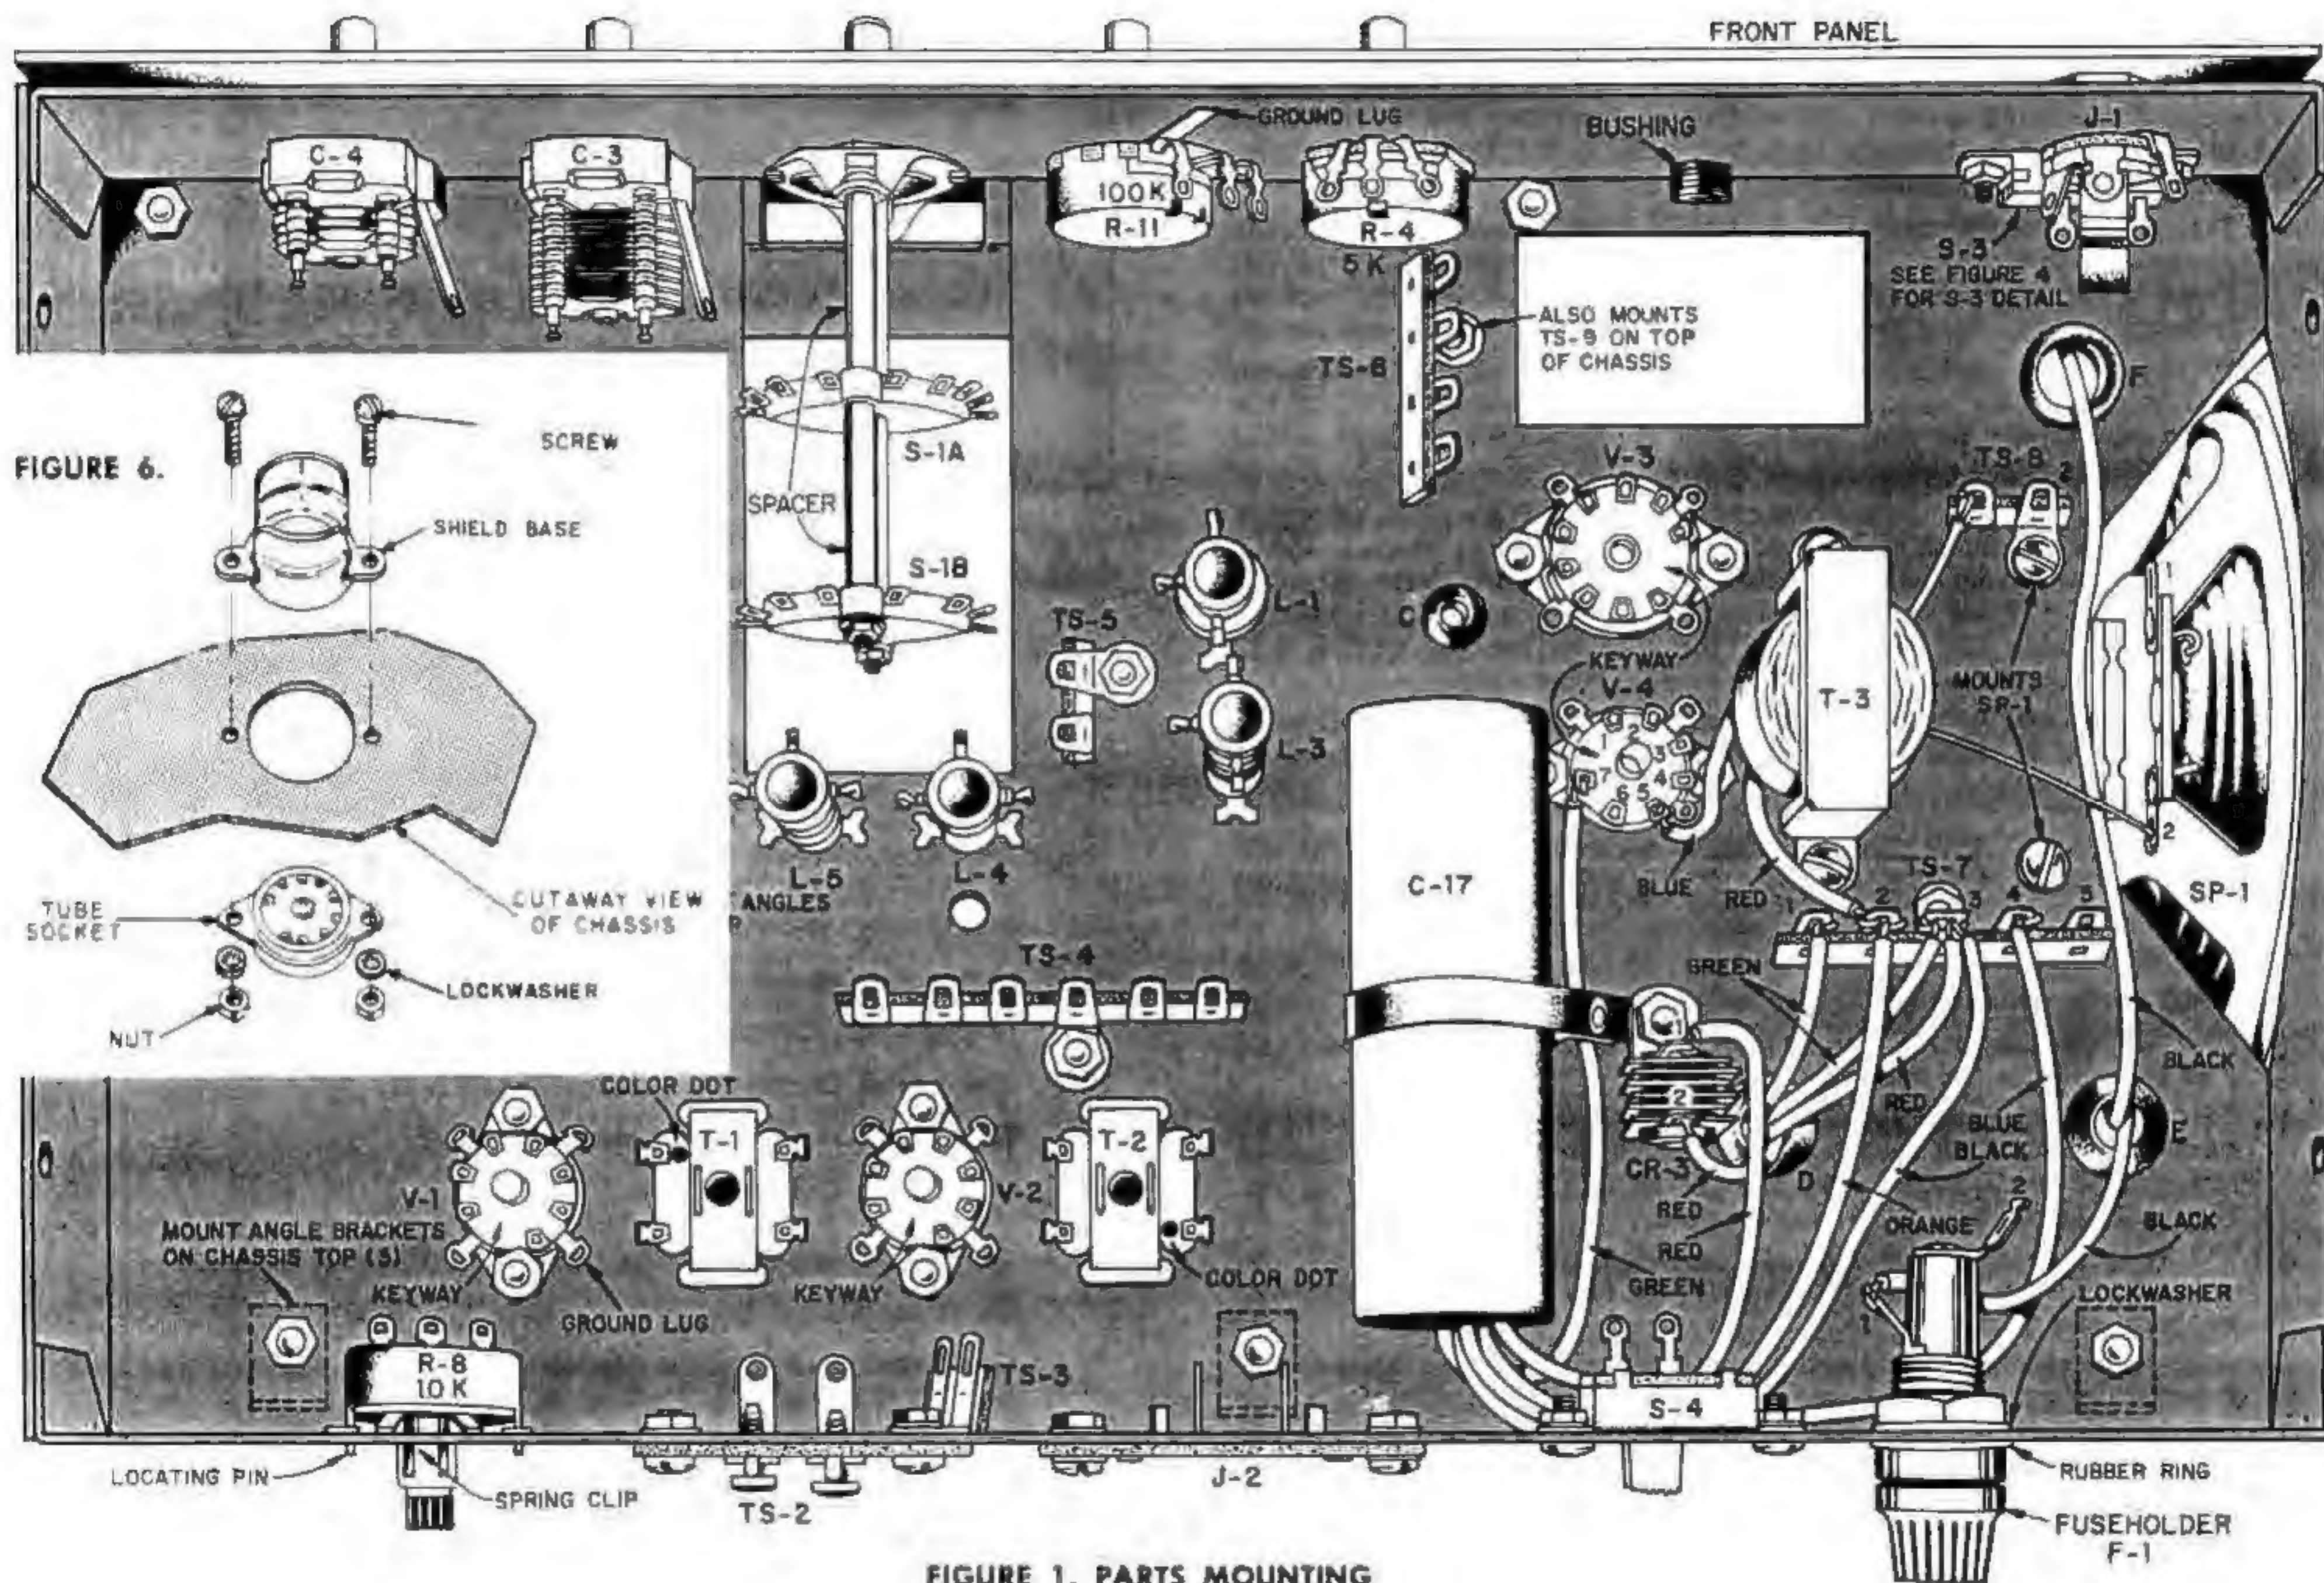

FIGURE 1. PARTS MOUNTING
- ☐ C-2 tuning capacitor with large drive pulley attached. Position on top of the chassis, with the plates of the capacitor opening toward the front panel as shown in Figure 16. Place a #8 lockwasher on each of two 8-32 screws. Fasten C-2 by inserting the screws from inside the chassis, into the threaded holes in C-2, through the holes labeled for C-2, in Figure 1.
- ☐ From inside the chassis, fasten the screw near the edge of the chassis with a lockwasher and nut. Mount TS-7, a 5-terminal strip, on the other screw used for T-4. Fasten with a lockwasher and nut. Make sure TS-7 is positioned as shown in Figure 1.
SEE FIGURE 1.